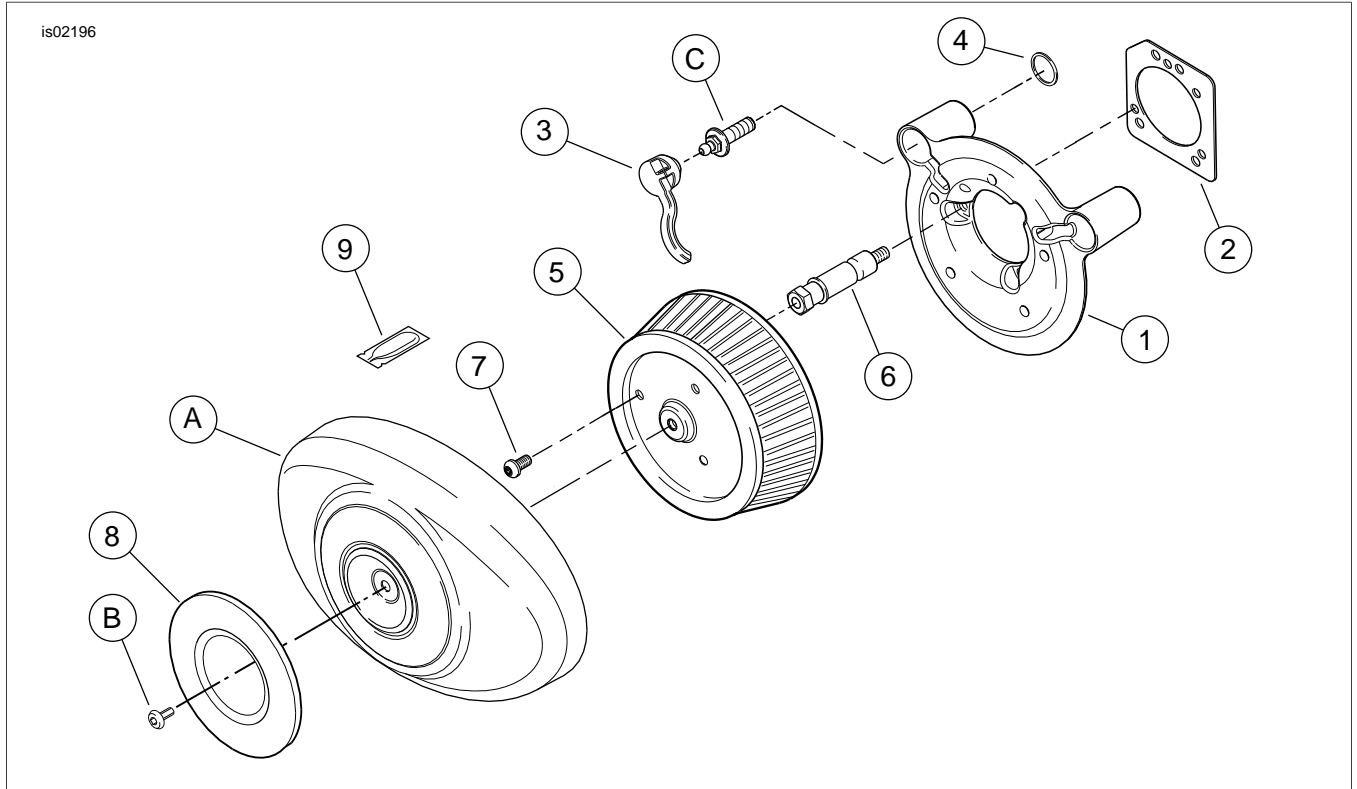

Figure 1. Service Parts, Screamin' Eagle Twin Cam Air Cleaner Backplate
See Figure 1 and Table 1.
3. See Figure 1. Obtain the new air cleaner backplate (1), the backplate gasket (2), two "O"-rings (4), and blue Loctite 243 (9) from the kit, and the breather screws (C) removed in Step 2.
7. Obtain the three air cleaner mounting studs (6) from the kit. Thread the studs all the way through the backplate and gasket until the screw threads are captured in the carburetor. **DO NOT** tighten completely at this time.
9. Press the breather plugs (3) into the breather screw cavities, aligning the tubes with the recesses in the backplate.